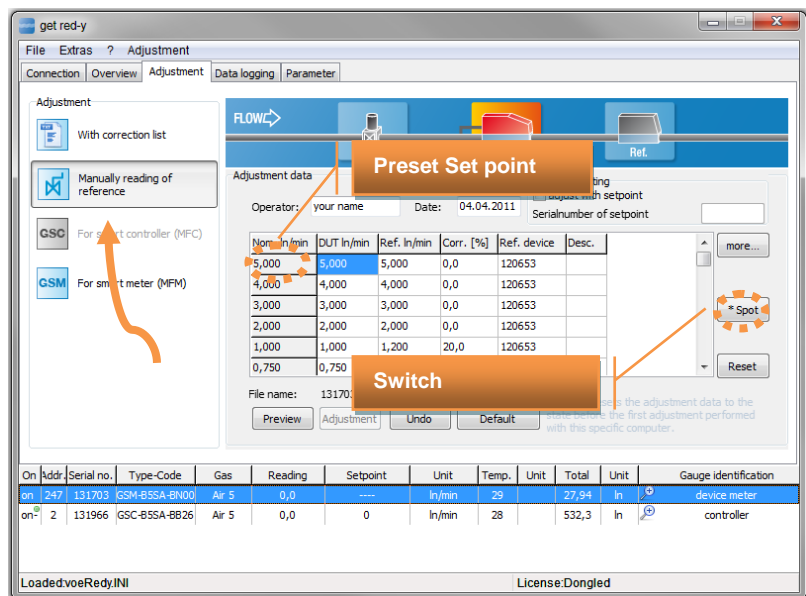

Figure 57: Adjustment tab
Clicking the Adjustment tab opens the window as shown in Figure 57.
**Spot:** A spot measurement will be performed only on the measuring point marked in blue in Figure 57